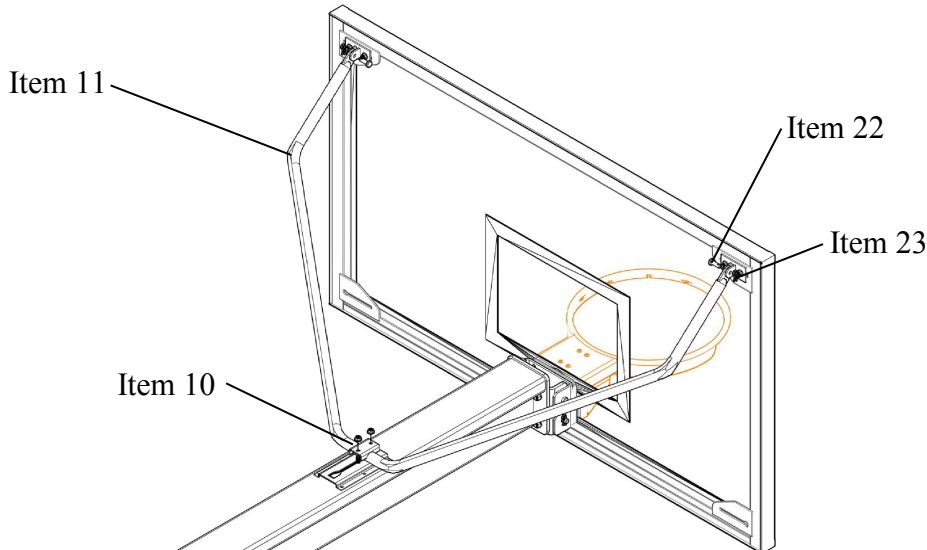

Figure 7
27. Attach the Backboard brace yoke (item 11) to the brackets installed in step 3 using the Clevis Pins (item 22) and Retainer Clips (item 23) as shown in figure 7.
28. Position the backboard brace clamp (item 10) over the yoke and yoke attachment plate on the boom as shown in figure 7. Secure the clamp with two 3/8-16 x 2-1/4" carriage bolts and whizlock nuts. Tighten these bolts securely